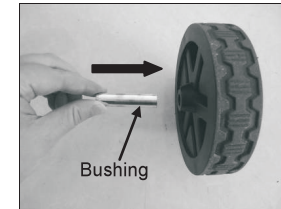
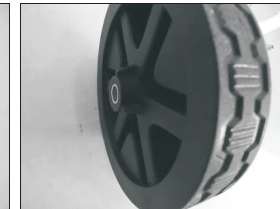

Fig. 5A
Fig. 5B
1. Insert the bushing into the hole of front wheel. (Fig. 5A/ Fig. 5B)